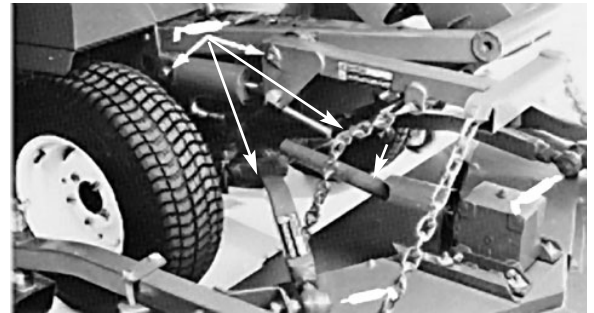
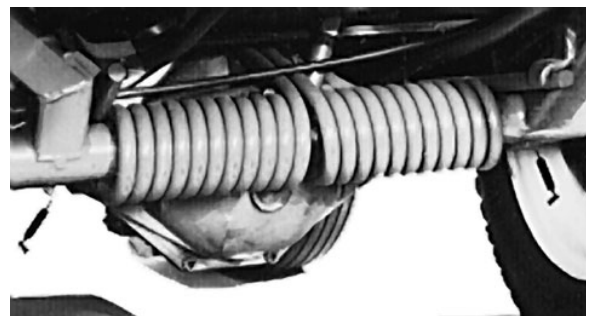
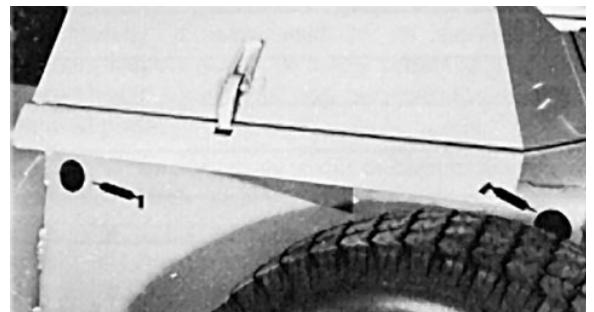
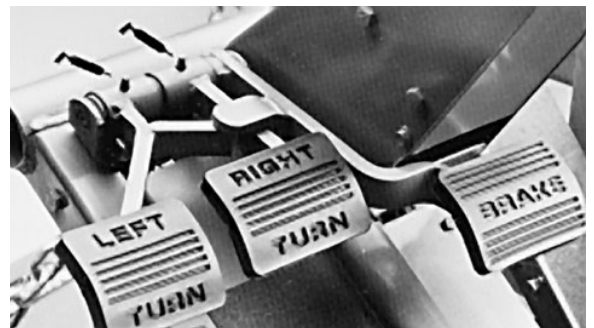

Figure 14
Figure 15
Figure 16
Figure 17
1. The traction unit bearings and bushings that must be lubricated are: power take off shaft and yokes (Fig. 14); lift arm pivots (Fig. 14); right and left push arm ball joints (Fig. 14); push arm pivot bushings (Fig. 15); power take off pivot housing blocks (Fig. 16); brake pivot bushings (Fig. 17); rear wheel spindle bushings (Fig. 18); steering